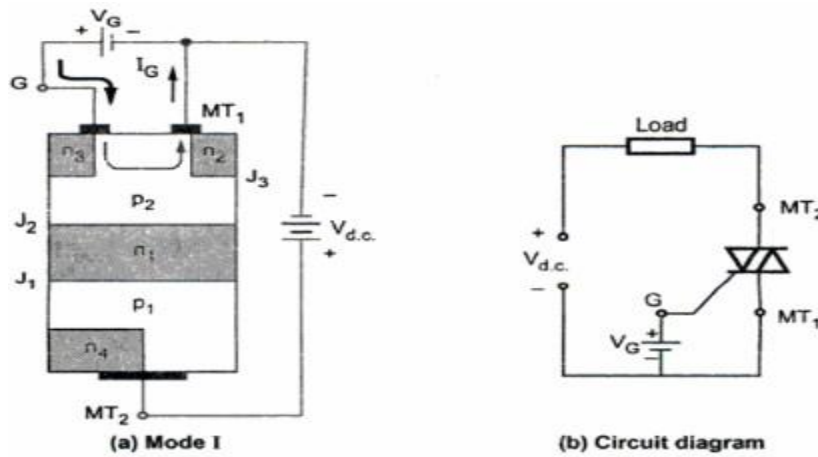

Fig. 4.36
**1. Mode I :** In this mode, triac is forward biased and gate is made positive with respect to  $MT_1$ . This is shown in the Fig. 4.36 (a). The terminal  $MT_2$  is positive with respect to  $MT_1$  as triac is forward biased.